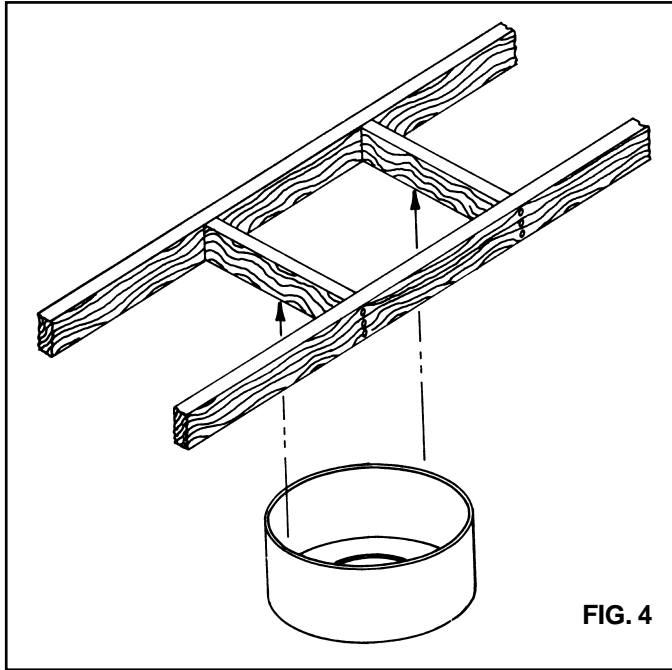

FIG. 4
1. Completely frame in (on all four sides) a properly-sized square opening. Select opening size so that outside wall of Ameri-Bucket will contact framing at four sides. See Fig. 4.